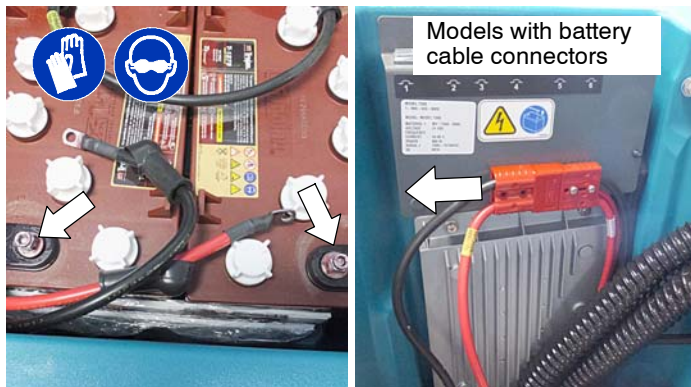

Fig. 1
3. Disconnect battery cables from battery pack. If model is equipped with the red quick disconnect connector, disconnect connector (Figure 1).